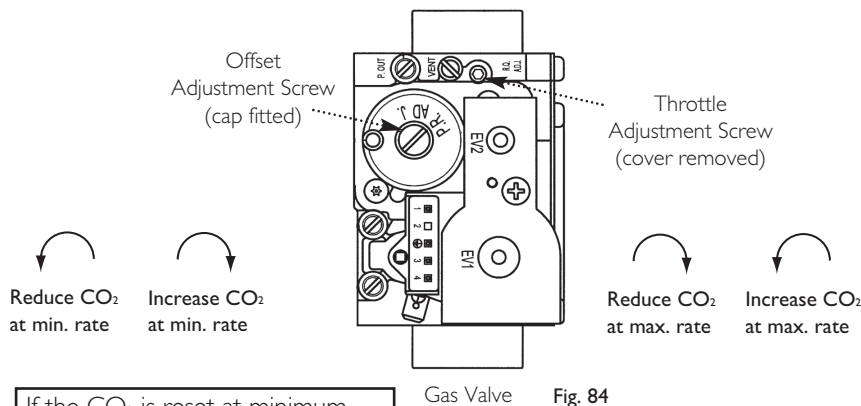

Fig. 84
8. It is possible to alter the CO₂ by adjustment of the gas valve. Remove the plastic cover from the Throttle Adjustment Screw. At maximum rate the Throttle Adjustment Screw should be turned, using a suitable hexagon key, until the correct reading is obtained (Fig. 84). Turning clockwise will reduce the CO₂. Anticlockwise will increase the CO₂.
10. With the boiler on minimum, the 'Min. Rate' adjustment screw must be altered, using a suitable hexagon key, after removing the cap (Fig. 84). If the CO₂ is reset at either boiler rate it must be rechecked at the other rate and also adjusted if required.